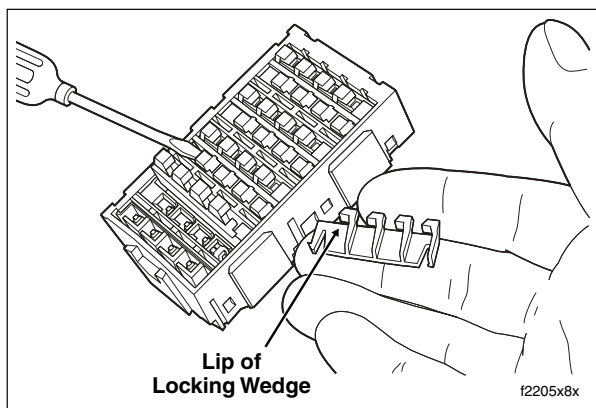

Figure B-21. Remove Secondary Locks From Fuse Block
For best results, start with locking wedge on outboard side of secondary lock. See Figure B-21.
- a. With the locking wedges positioned above the tangs in each chamber, slide flat side of secondary lock into slot (between rows), and push down until it bottoms. See Figure B-21.